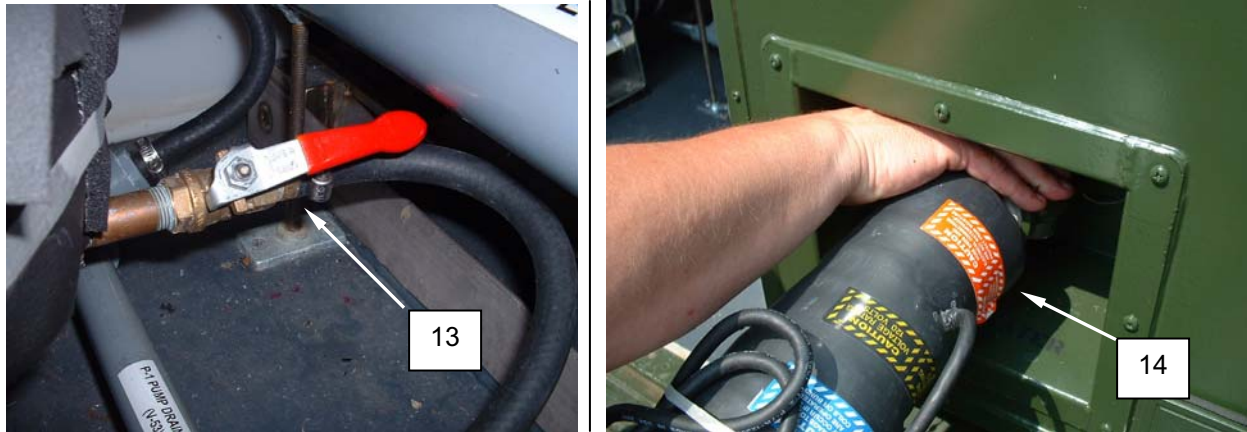

Figure 14. Sodium Bisulfite Preservation Procedure.
15. Shut off water supply, open P-1 pump drain (Figure 14, Item 13) to relieve water pressure, and disconnect water supply hose (Figure 14, Item 14). Ensure QD cap is reinstalled.